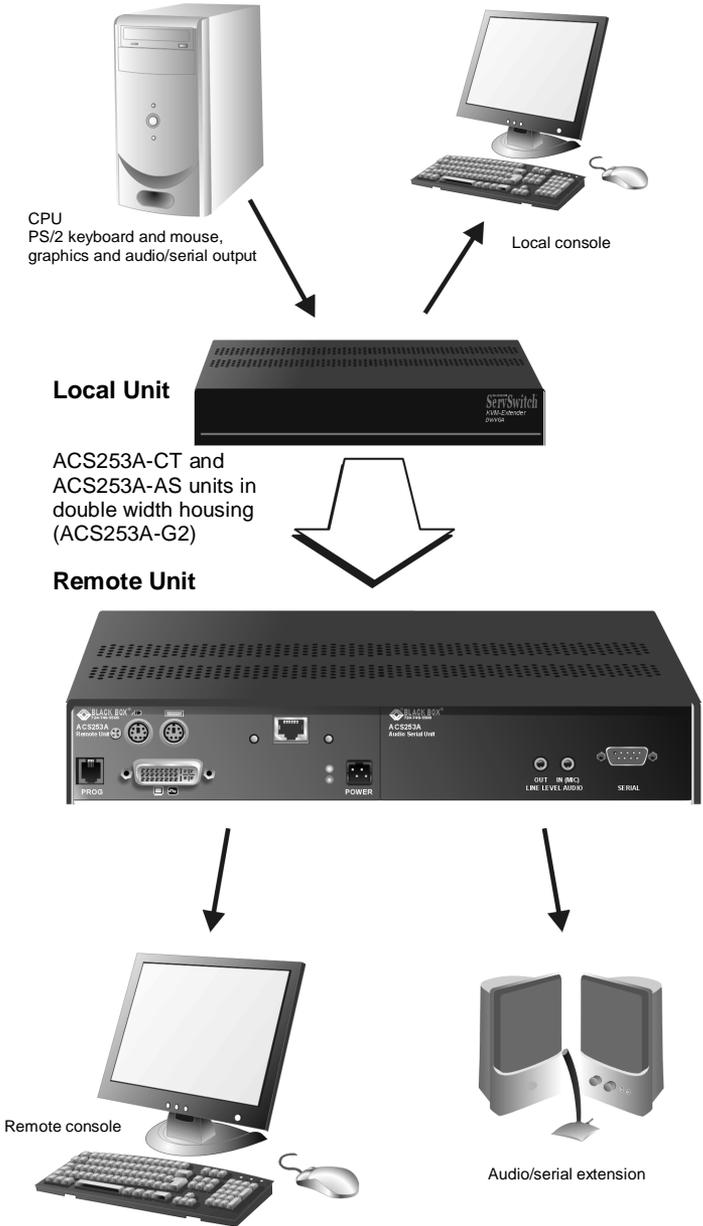

Figure 22 CATx application with local access and audio/serial extension
- CATx with audio/serial support in dual wide housing (Figure 22).